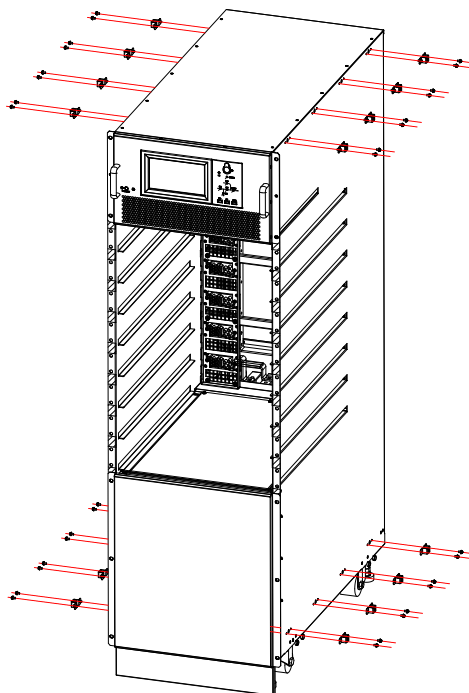

Figure 3-8 Remove bracket for cabinet side door
3. Remove bracket for cabinet side door, as Figure 3-8 shows ;